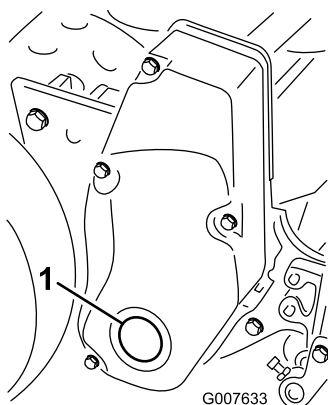

Figure 57
1. Remove the plug in the right reel drive cover (Figure 57).